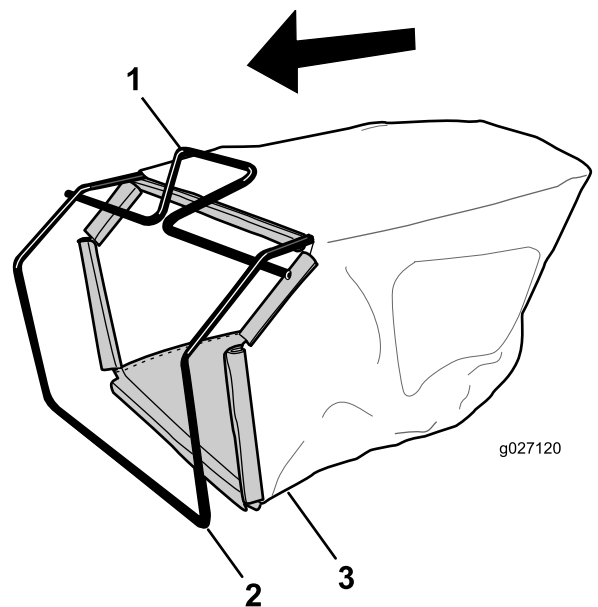

Figure 9
1. Slip the grass bag over the frame as shown in Figure 9.
- Note:** Do not slip the bag over the handle (Figure 9).